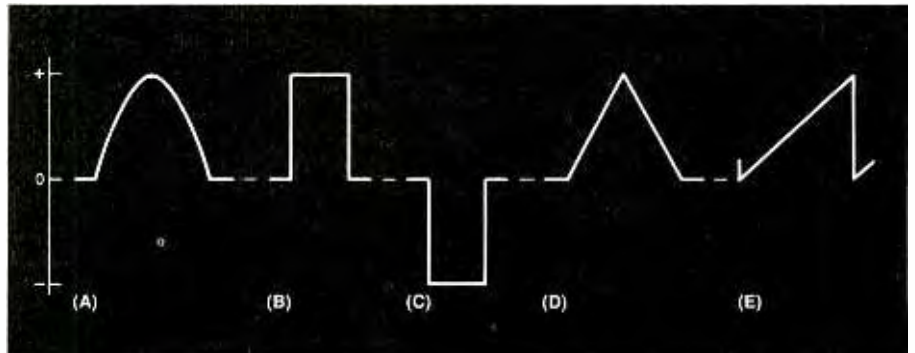

Fig. 1. Typical examples of pulse waveforms: (A) positive half of a sine wave, (B) positive square wave, (C) negative square wave, (D) triangle and (E) ramp.
Refer now to Fig. 1. In (A) is shown a pulse that is derived from a sine wave but is not a perfect sine shape. In this case, you see a half-wave rectified sine wave that, because of its missing half, now exhibits the behavior of a pulse. Positive- and negative-going square pulses are shown in (B) and (C), respectively. (D) illustrates the wave shape of a triangle or "delta" pulse, while (E) is a drawing of a sawtooth pulse.